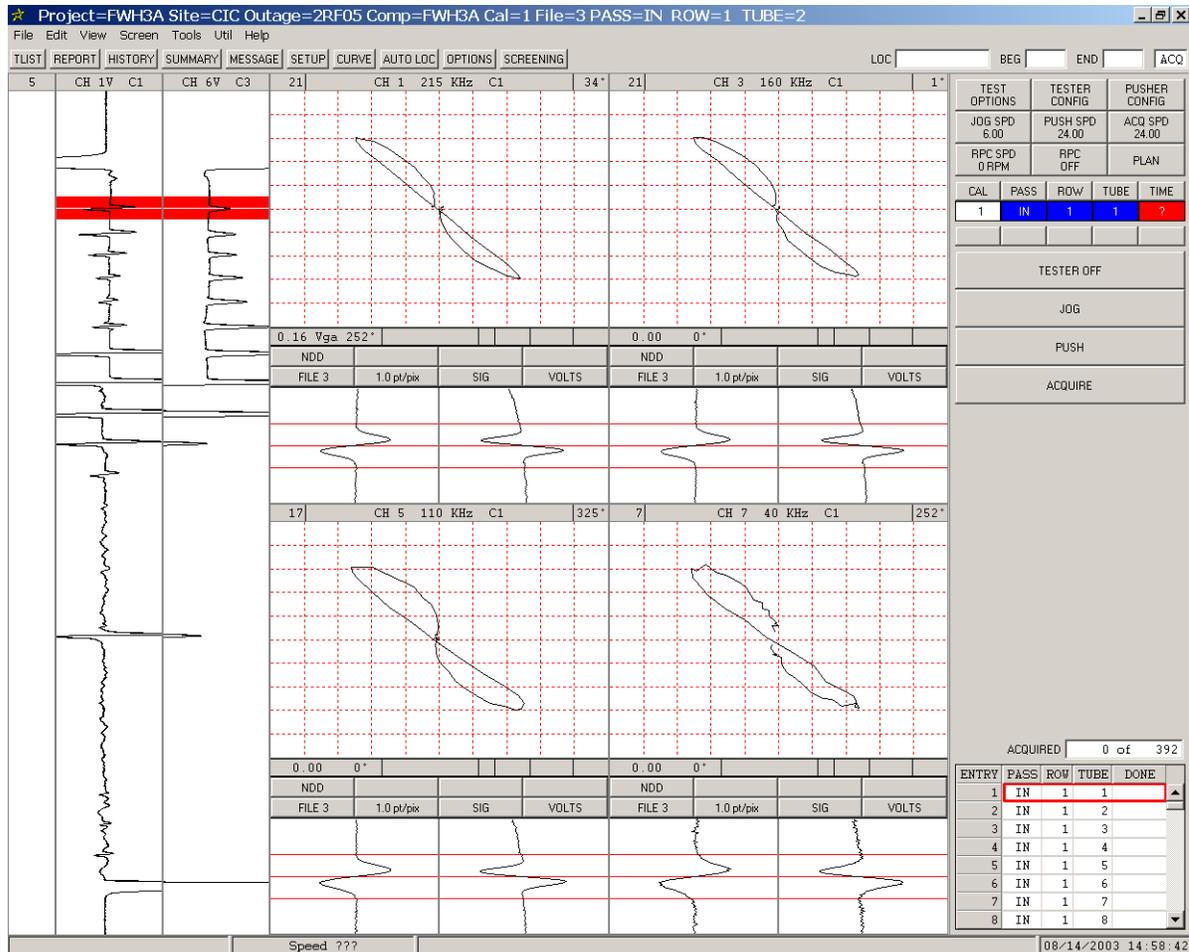

Figure 10-17. Acquisition Screen - Setting Differential Span Levels
- STEP 24:** Repeat the 2 steps above for the remaining differential channels (3, 5, & 7). The signal **Span** or **size** should appear similar to Figure 10-17.
Note: The voltage grid shown in Figure 10-17 is for tutorial purposes only.